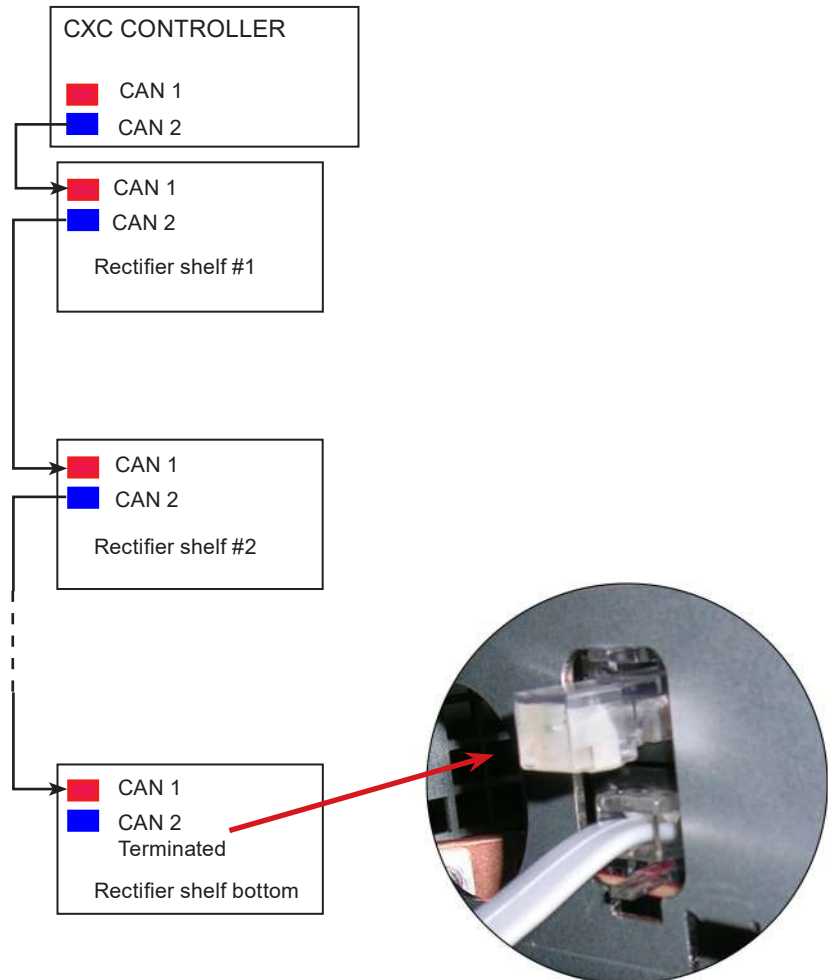

Figure 8 — CAN Bus Cabling
1. Daisy-chain from shelf to shelf (CAN 1 of one shelf to CAN 2 of another) as shown in Figure 8.